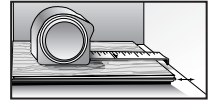

Figure 4
2. Starting from the right with the tongue facing the wall, carefully place the first board in place. Use wedges or 1/2" scrap (Figure 4) along the wall to hold plank in place while allowing the required expansion space.